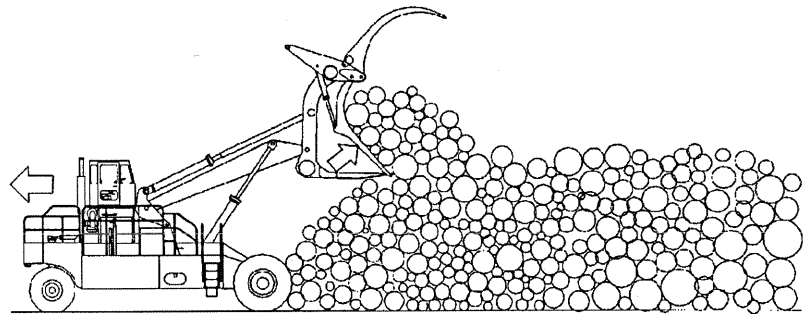

Fig 4-12
2. Move up to the deck with the load lifted to the necessary height. Place the drive wheel tires tight against the bottom logs, as this firms up the deck and helps prevent logs from shifting when you place the new load on top. See Fig. 4-12